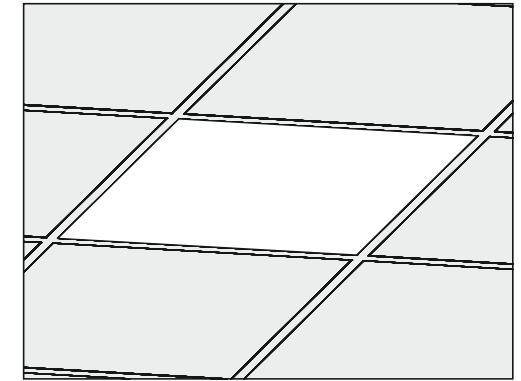

Fig. 2
- luminaire is ready for use (fig.2).